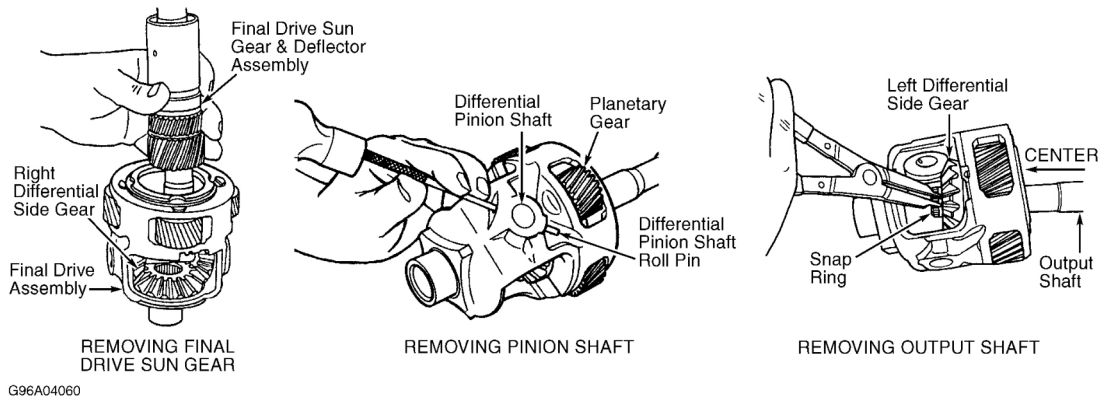

Fig. 34: Disassembling Final Drive Components
1. Remove No. 16 thrust bearing and race. Remove park gear from differential output shaft. Remove final drive sun gear and deflector assembly. See **Fig. 34** . Remove speedometer drive gear, if equipped.
1. Slide thrust washers and side gears into final drive case. Install output shaft and place snap ring on end of output shaft. See **Fig. 34** . Install thrust washers on pinion gears. Ensure washer inner lip is seated in pinion gear recess.
3. If removed, install speedometer gear. Install final drive sun gear and deflector assembly. See **Fig. 34** . Install park gear and No. 16 thrust bearing. See **Fig. 16** .